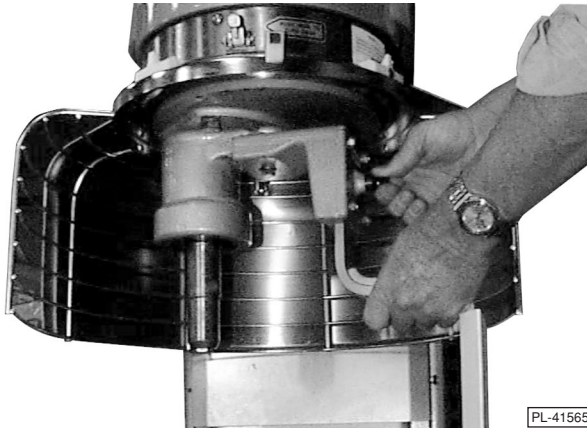
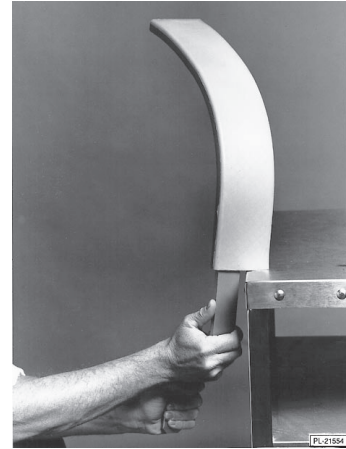

Fig. 15
Fig. 16
3. To remove scraper arm after using: Lower the bowl. Open the Wire Cage Assembly on the Bowl Guard (if equipped). Pull the black knob out. Lower the scraper arm (Fig. 15). If needed, remove the bowl, contents, and beater.
To remove the scraper arm from the planetary bracket, lower the bowl, pull out on the knob and lower the arm (Fig. 15). Remove the urethane sleeve from the arm. Tapping the sleeve against a table will aid removal (Fig. 16). Clean both parts in a sink with warm water and detergent solution. Do not wash urethane sleeve in a dishwasher or use water above 110°F. Rinse with clear water and air dry.